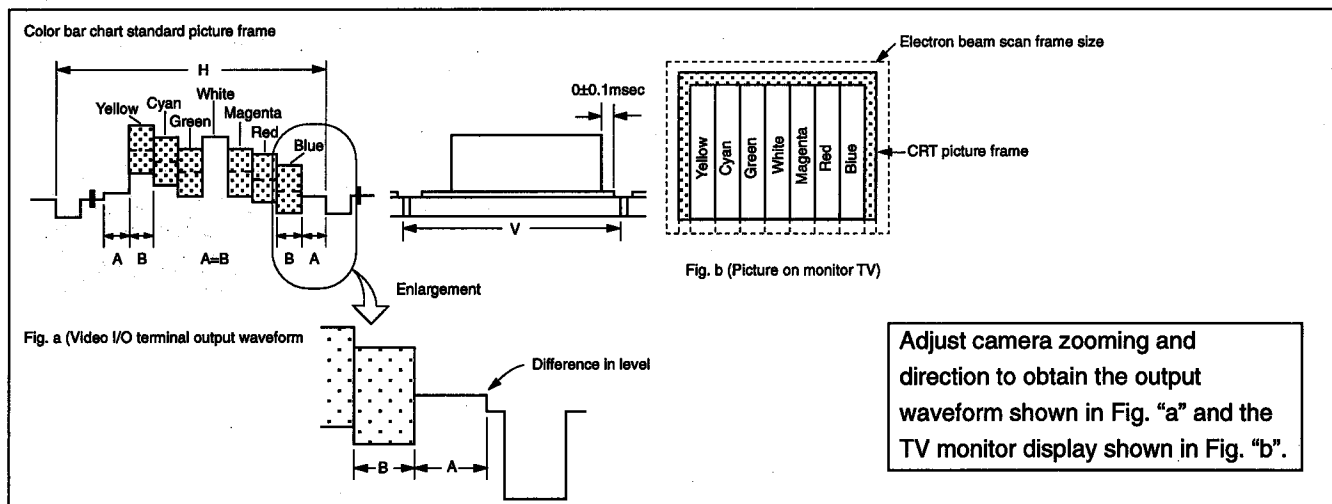

Fig. 6-1-3
- Adjust the picture frame as shown in Fig. 6-1-3.
- Adjust camera zooming and direction until the camera output waveform on the oscilloscope shown in Fig. 6-1-3 (a) and the color picture on the monitor TV shown in Fig. 6-1-3 (b) have been acquired.